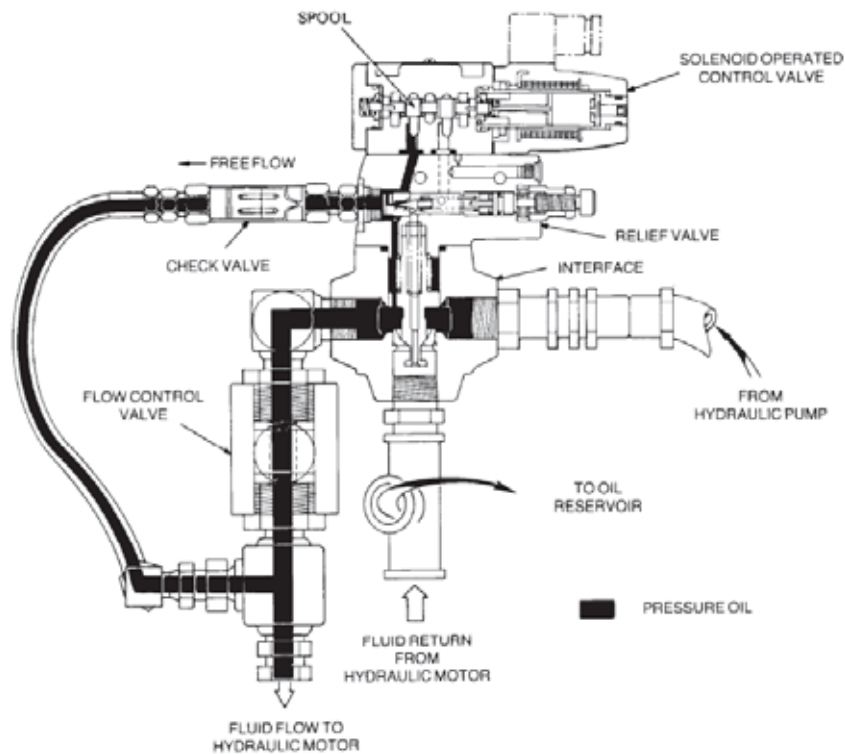

Figure 18 Fluid Flow – Pump Start Switch On
48. With the PTO ON and the PUMP START switch ON (solenoid energized), the fluid flow through the solenoid valve is blocked by the spool (Figure 18). The relief valve poppet spring overcomes fluid pressure and closes the poppet, cutting off the fluid flow through the centre drilling of the piston. Fluid pressure on each side of the check valve is now equal and the check valve is held closed due to internal spring pressure. The fluid flow through the piston orifice now ceases and the pressures in chambers A and B are equalized, allowing the piston to seat under spring pressure. This action directs all pressurized fluid to the hydraulic motor.